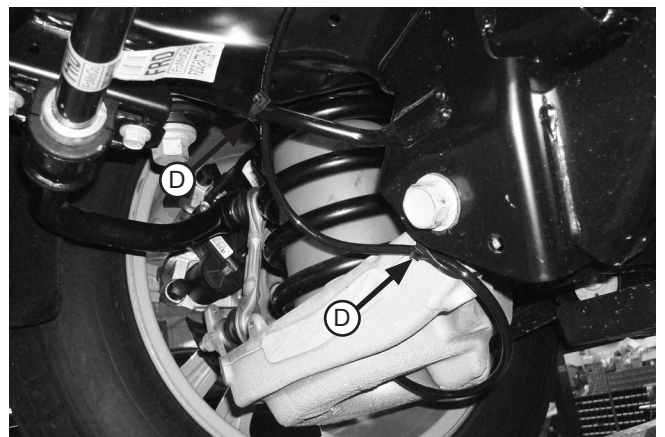

Fig. 6
- Route the air line inboard and attach to the lower control arm using a zip tie (D) on both sides (Fig. 6). Leave a little slack so the air line will not pull off the stem when the suspension is in full extension.